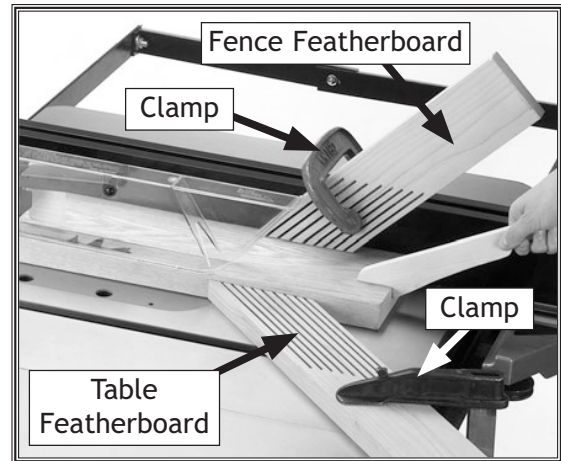

Figure 74. Example of featherboards secured with clamps.
3. Place a featherboard on the table away from the blade so all fingers point forward and contact the workpiece (see **Figure 74**).
6. Mount a second featherboard to the fence with another clamp (see **Figure 74**), then repeat **Step 5** to ensure it is secure.